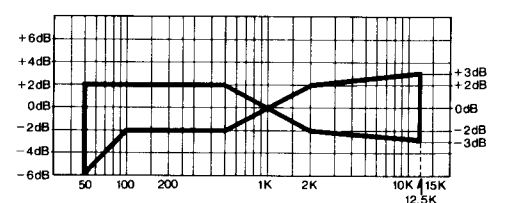
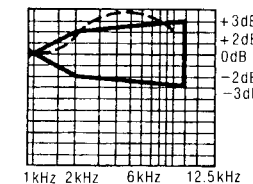
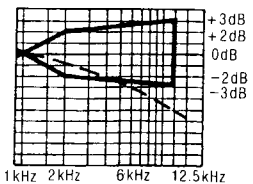

Fig. 12
Fig. 14
Fig. 15
6. Playback the signals recorded in step 5, and check if the frequency response curve is within the limits shown in the overall frequency response chart for normal tapes (fig. 12). (If the curve is within the charted specifications, proceed to steps 7, 8 and 9.)
When the curve exceeds the overall specified frequency response chart (fig. 12) as shown in fig. 14.
- 2) Repeat steps 5 and 6 for confirmation (Proceed to steps 7, 8 and 9 if the curve is now within the charted specifications as shown fig. 12.)
- 3) If the curve still exceeds the specifications (fig. 12), increase bias current further and repeat steps 5 and 6.
When the curve falls below the overall specified frequency response chart (fig. 12) as shown in fig. 15.
- 3) If the curve still falls below the charted specifications (fig. 12), reduce bias current further and repeat steps 5 and 6.